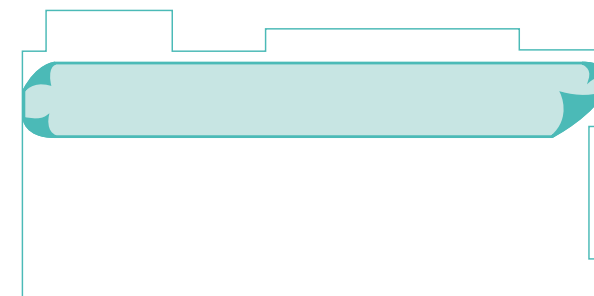

Figure 10 Lining up the first sheet
- > Adjust the lie of the sheet so that the inner edge is parallel with the axis of the room (Fig 10).